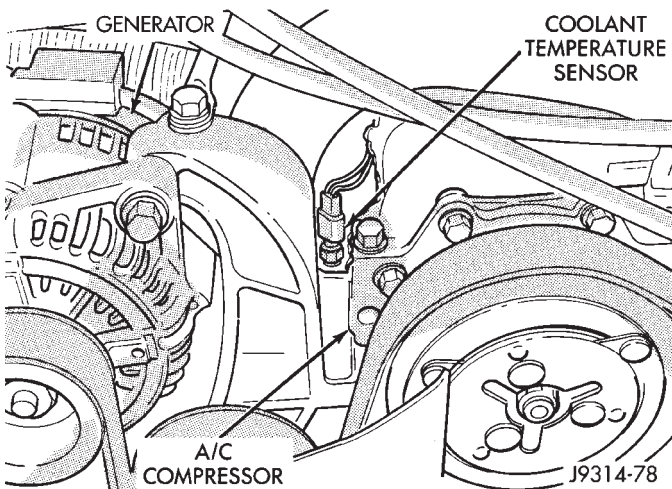

Fig. 3 Coolant Temperature Sensor—Typical
- (1) Partially drain cooling system. Refer to Group 7, Cooling.
- (2) Disconnect electrical connector from sensor (Fig. 3).